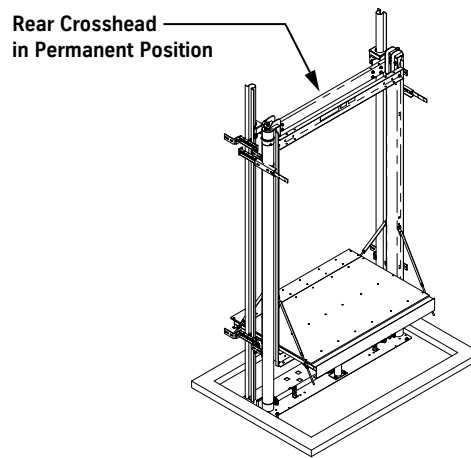

Figure 48 - Rear Crosshead Permanent Position
1. With the car at the first landing, remove the rear crosshead channel from the stiles and raise it up to its permanent location at the top of the stiles. See Figure 48.